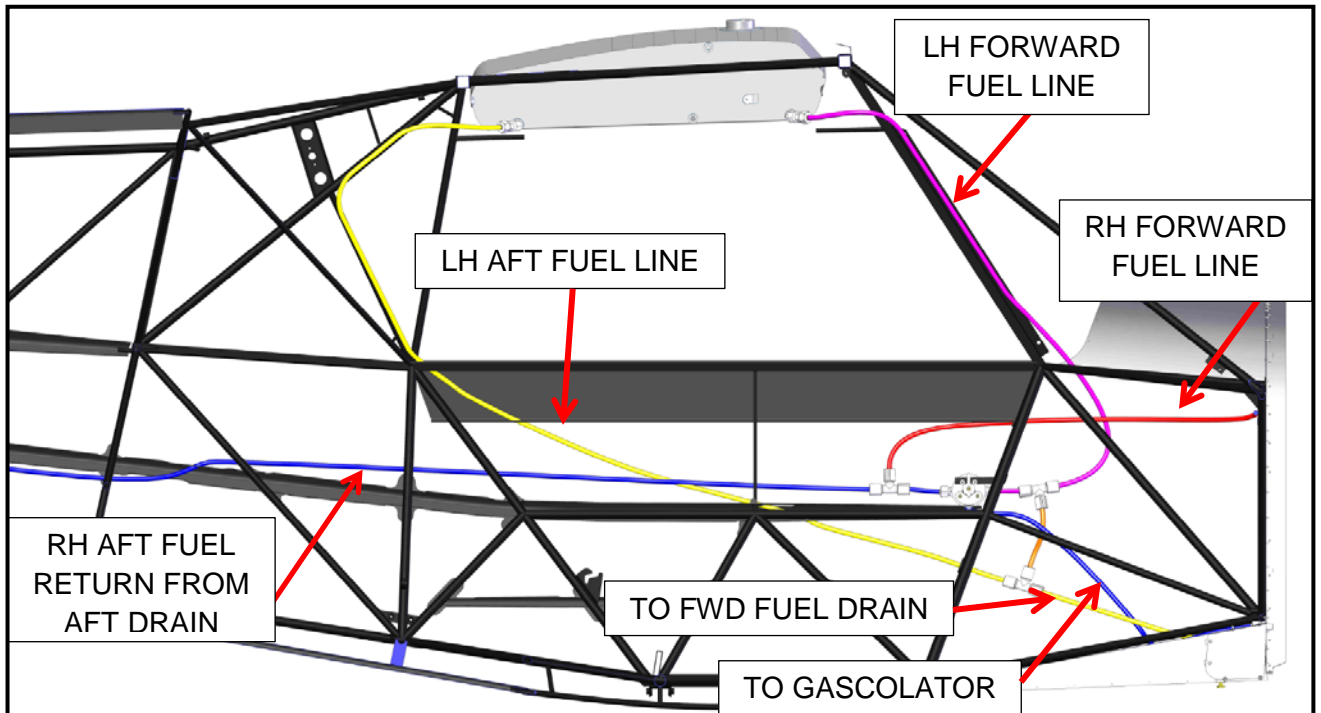

FIGURE 24 – New Fuel Line Routing
62. Trim the forward fuel drain line to length and make the final connection to the tee forward of the boot cowl spacer, making a continual downhill slope from the lower rear window corner to fuel drain weldment. Figure 24 details LH forward section of new fuel and drain line routing. Secure round-it protective wrap on upper end of sump line per Appendix B.